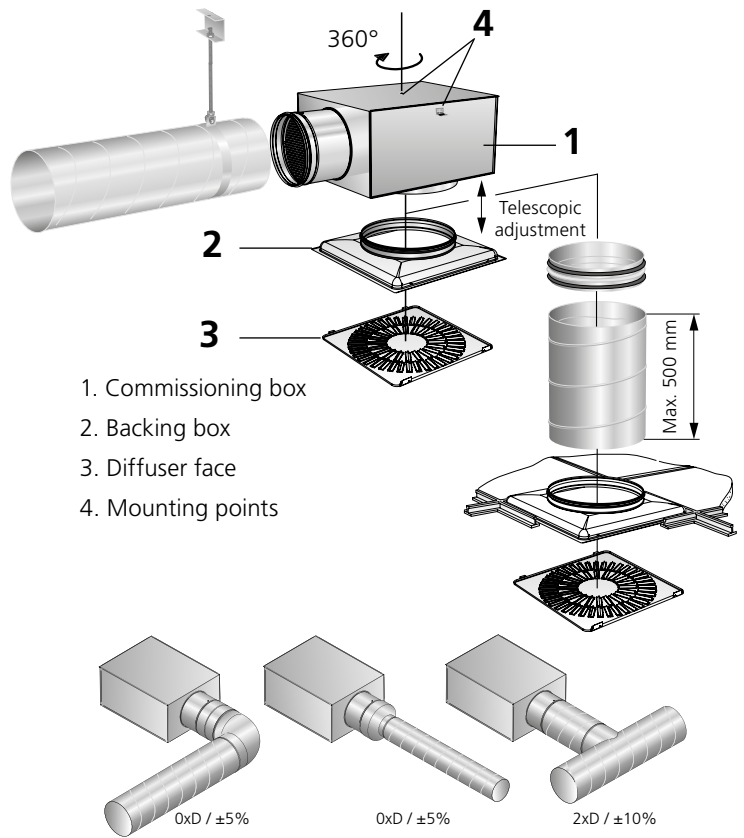

Figure 3. Installation alternatives.
- The distance between the commissioning box and the air diffuser can be increased by 500 mm with a circular duct without having to lengthen the measuring tubes and damper commissioning cords, see figure 3.
- Measurement accuracy and requirement on straight duct before the commissioning box, see Figure 3. The requirements of straight duct depends on the type of disturbance before the commissioning box. Figure 3 shows a bend, a dimensional change and a T-piece. Other types of disturbances requires at least 2xD straight (D = connection dimension) for measurement accuracy of $\pm 10\%$ of the flow.